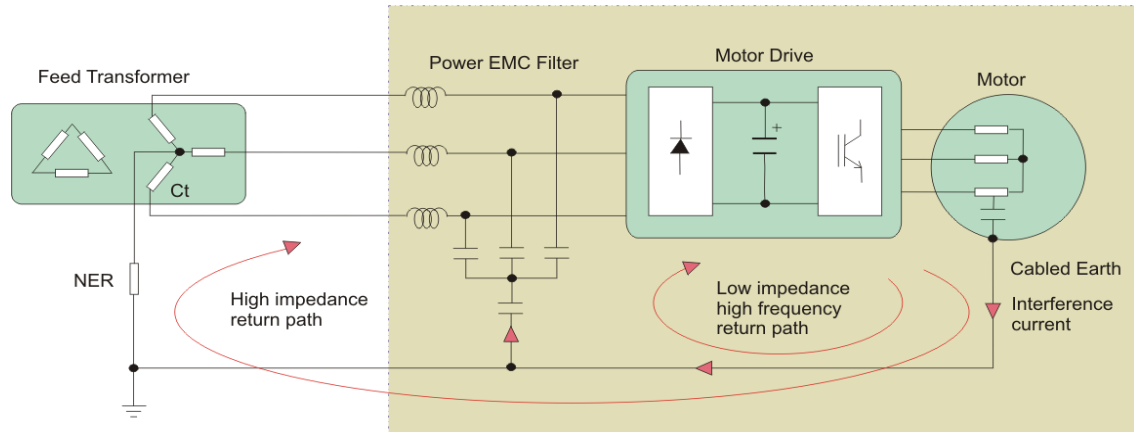

Figure 1 – Alternative earth current paths
- 2) To minimise interference with protection and control systems, many drives employ electromagnetic compatibility (EMC or EMI) filters that consist primarily of a capacitive circuit between the input of the drive and earth. This provides a path for the earth currents that represents an alternative path to the NER, as shown in Figure 1 below. In fact, it is the intention of the filter to provide this alternative path for the high frequency currents that flow (through the motor and cable stray capacitances) to earth under normal conditions. They will also provide an alternative path under fault conditions, particularly if the fault is driven by the high switching frequency drive output.